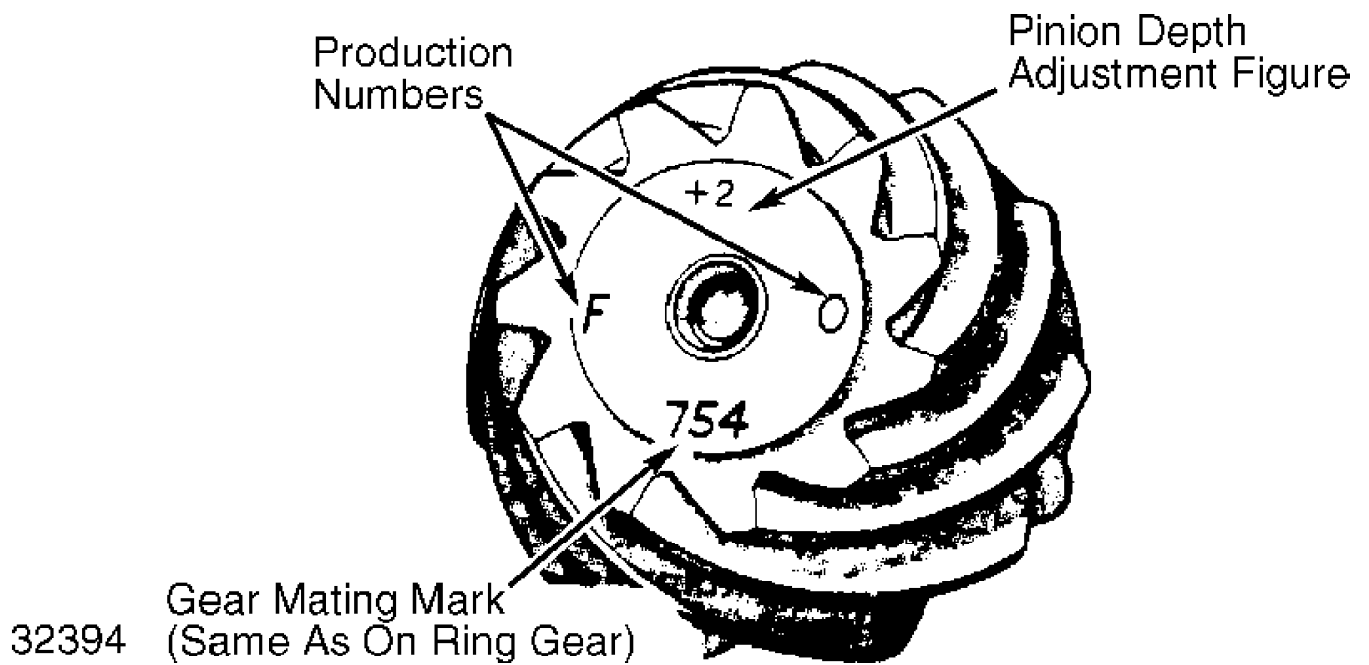

Fig. 10: Location of Pinion Gear Markings W/ Depth Adjustment Figures
2) If only pinion shaft and ring gear are to be replaced and carrier housing can be reused, compare pinion depth adjustment numbers etched in faces of old and new pinion heads. See Fig. 10. Using PINION DEPTH SHIM ADJUSTMENT SPECS table, correct shims can be selected for new pinion shaft depth adjustment.